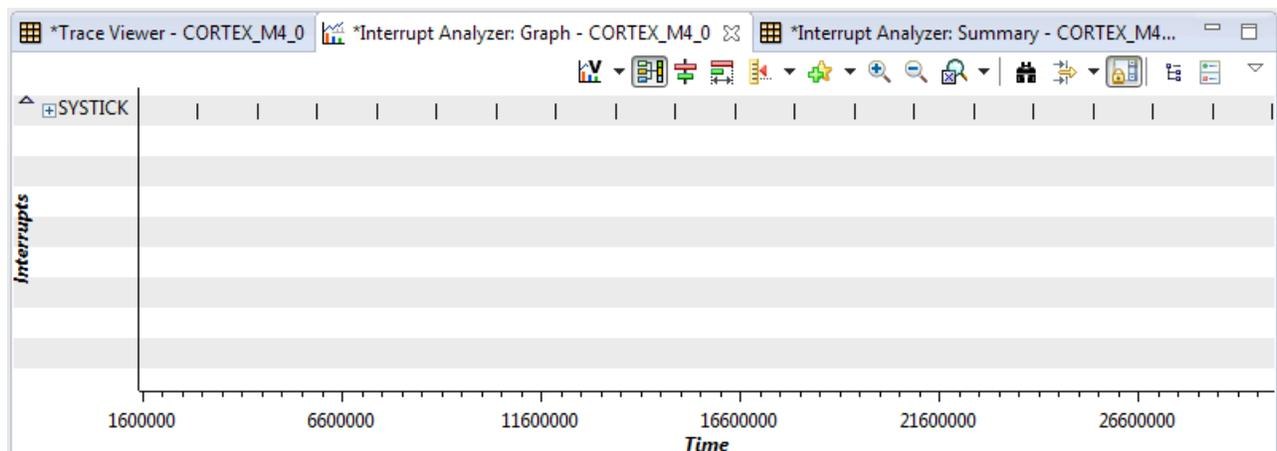

Figure 15. Interrupt Profiling Demo
- (a) To demonstrate, start the program with no breakpoints, let the red LED blink 10 times without touching any switches, and suspend the program. Compare your Interrupt Profiling graph with Figure 15.